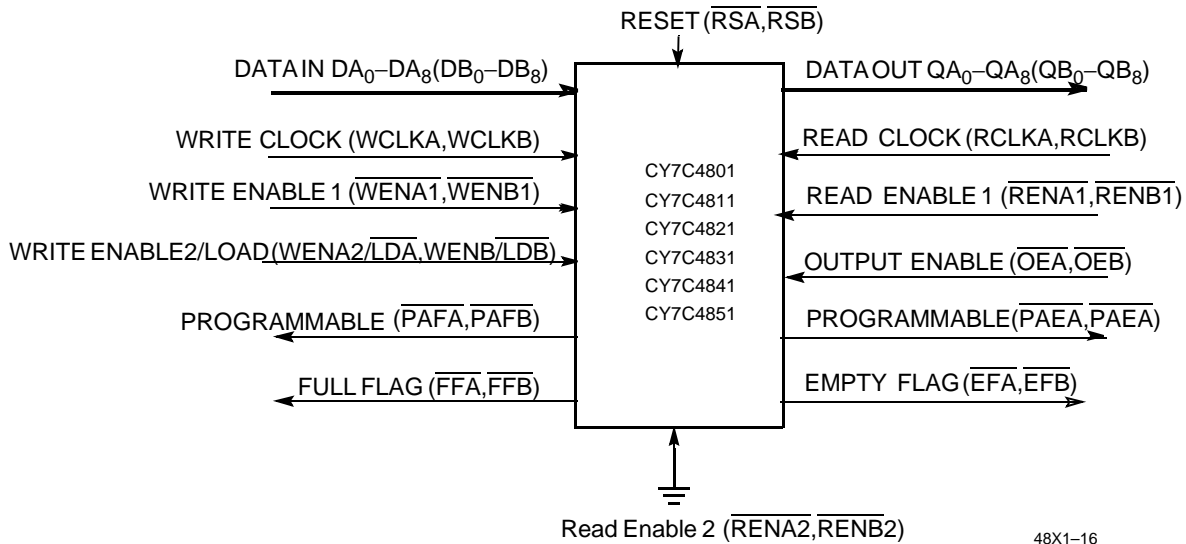

Figure 2. Block Diagram of 256 x 9,512 x 9,1024 x 9,2048 x 9,4096 x 9,8192 x 9 Double Sync FIFO Used in a Single Device Configuration.
When FIFO A(B) is in a Single Device Configuration, the Read Enable 2 $\overline{RENA2}$ ($\overline{RENB2}$) control input can be grounded (see Figure 2). in this configuration, the Write Enable2/Load